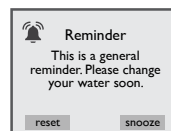

Figure 15.0f
22. Water Refresh Reminder: This message will appear when the "Water Refresh" timer has expired (Figure 15.0f). The water needs to be drained and refilled with fresh water.